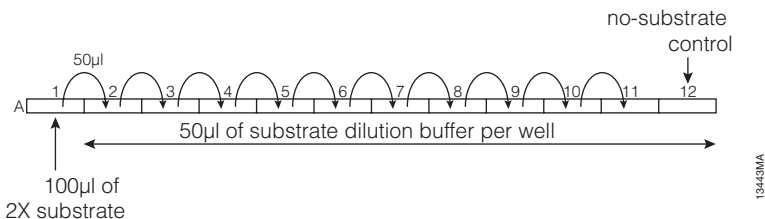

Figure 8. Dilution scheme for the substrate.
- c. Perform a twofold dilution of the 2X substrate solution by transferring 50µl from well A1 to well A2, and pipet to mix. Transfer 50µl to well A3. Repeat for wells A3 through A11. Discard 50µl from well A11. Do not add substrate to the control reactions in well A12. See Figure 8.